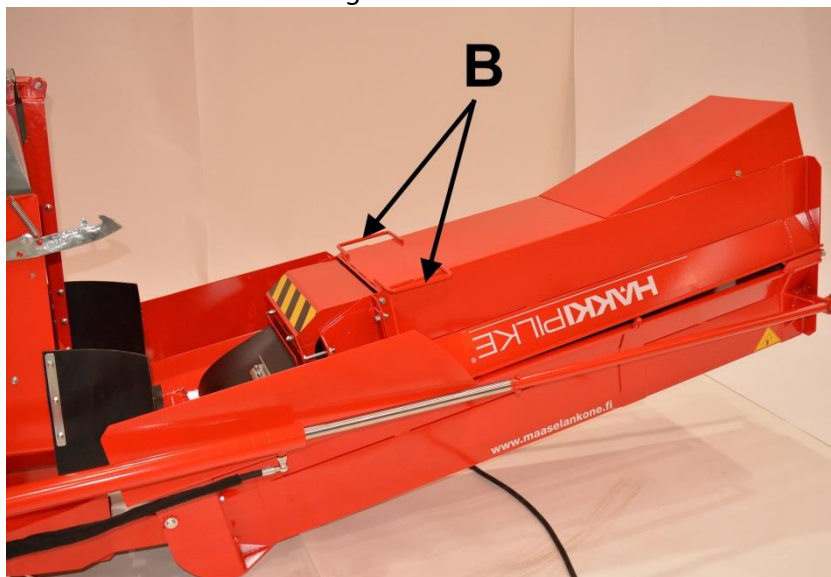
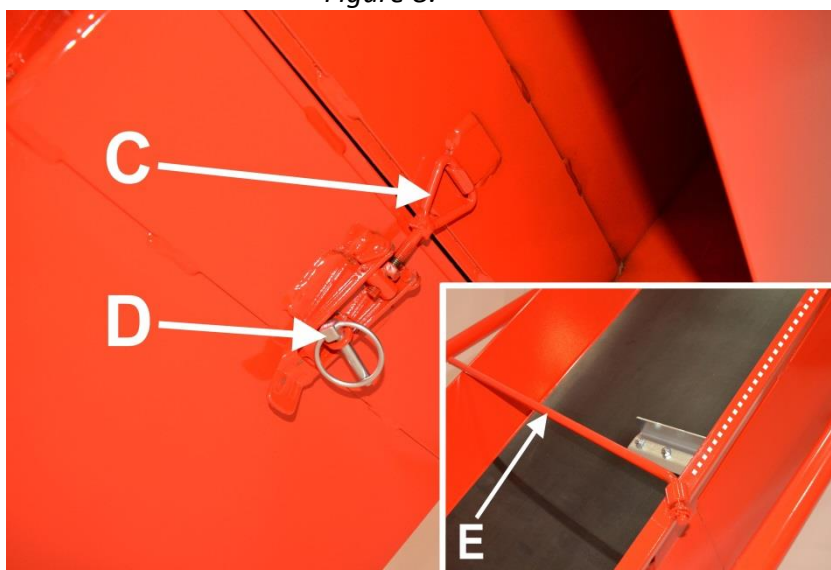
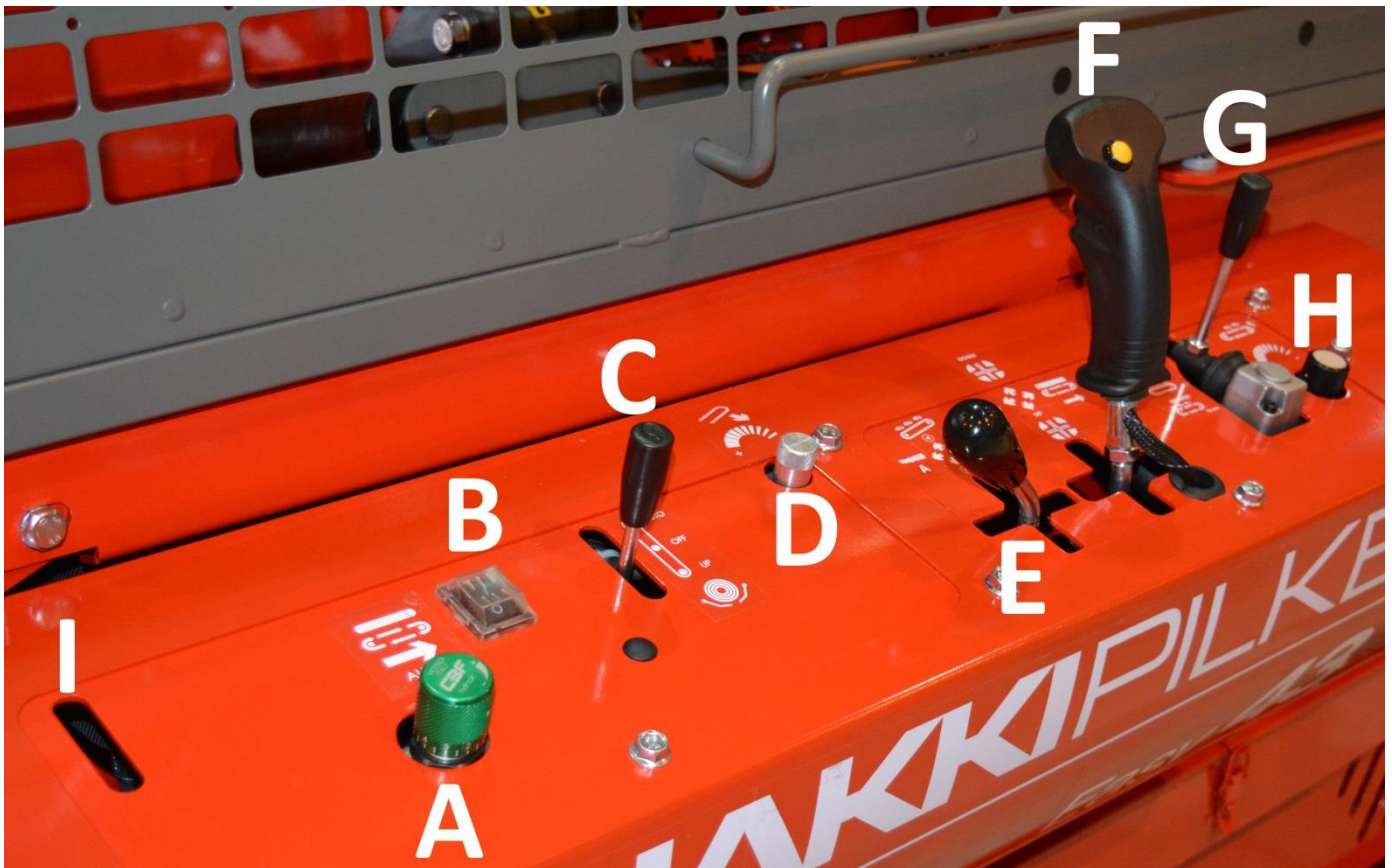
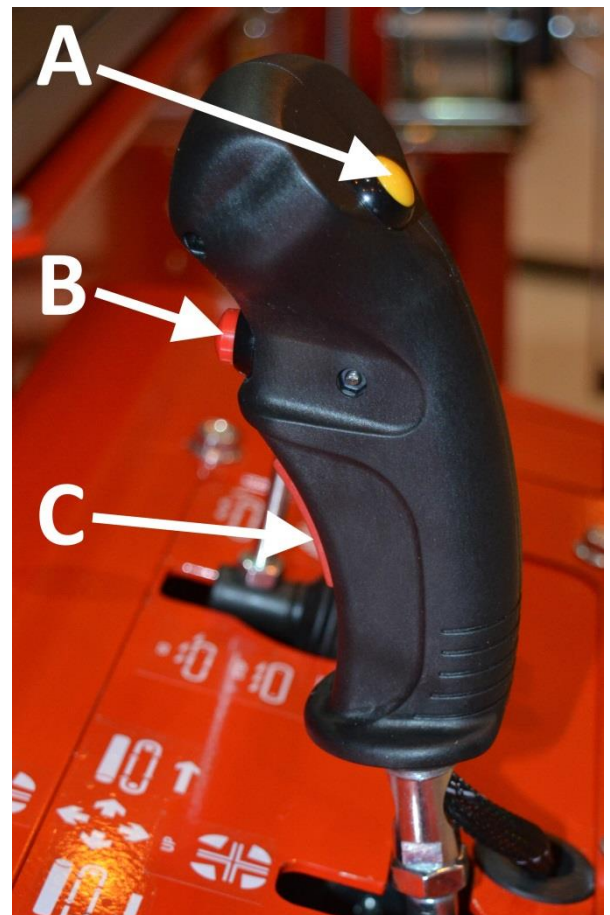

Figure 8.
Figure 9.
Figure 10. Controls
Figure 11. Joystick
If you are using a larger conveyor (as shown in Figure 8), lower the out-feed conveyor hydraulically with control lever E (Figure 10).
4. Turn the upper section of the conveyor to the operating position with the handle(s) B (Figure 8). **Note! If necessary, have two people on either side of the conveyor to lift it!**
5. Lock the upper section of the conveyor into place with latch C and cotter pin D, as shown in Figure 9.
6. Turn the support bar (E in Figure 9) of the conveyor belt to the
2. Release lock C of the upper section of the conveyor (Figure 9) and lower the conveyor to the lowest **possible** position with the winch or hydraulically with lever E, as shown in Figure 10 (when the machine has a larger conveyor).
3. Turn the conveyor belt's support bar E (Figure 9) on top of the belt and then turn the upper section of the conveyor on top of the lower section with the handle(s) B (Figure 8). **Note! If necessary, have two people on either side of the conveyor to lift it!**
4. Turn the conveyor to the middle position with lever F (Figure 10).
6. Lift the conveyor with the winch or hydraulically with lever E, as shown in Figure 10 (when the machine has a larger conveyor), until the conveyor locks into the upper position. Ensure that lock A connects firmly. Ensure that the protective strip of the splitting groove is retracted in the front.
Names and functions of the controls in Figure 10
Out-feed conveyor control lever (when a larger conveyor is being used). Note! In this case, the accessory is controlled with a valve located in position I in Figure 10.
I. Accessory valve when a larger conveyor is used (otherwise empty as shown in Figure 10)
The Hakki Pilke 43 firewood processor's out-feed conveyor belt is driven by a hydraulic motor. To change the speed of the belt, use adjuster H (Figure 10). The conveyor can be turned sideways hydraulically with lever E (Figure 10) as follows:
When using a larger conveyor: (with lever E in Figure 10)
The machine's splitting blade is controlled hydraulically with control lever F (Figure 10). Pushing the lever in the front position causes the blade to be lowered, while pulling the lever to the back position causes it to rise. Logs should always be as centred as possible when passing the blade in order to keep the size of the firewood consistent.
6. Start the splitting cycle by pressing button B (Figure 11) on joystick F (Figure 10). The splitting motion must be normal.
- a. Perform a few sawing cycles without wood by pressing down button C (Figure 11).
3. When the log stops in the hydraulic measuring device for cutting, cut the log by pressing button C (Figure 11) on the joystick. This will activate the cutting chain and sawing cycle automatically.
4. Return the saw bar to the upper position by releasing button C (Figure 11).
The Hakki Pilke 43 firewood processor is equipped with a hydraulic log press, which always **automatically** presses the log against the in-feed conveyor when the log is being cut, i.e. when the saw bar is lowered, the log press presses the log downwards. Thanks to this mechanism, the operator only needs to make sure that the log being fed does not collide with the log press when **a new log** is being fed into the cutting section by lifting the log press to the upper position by pressing button **A (Figure 11)**.